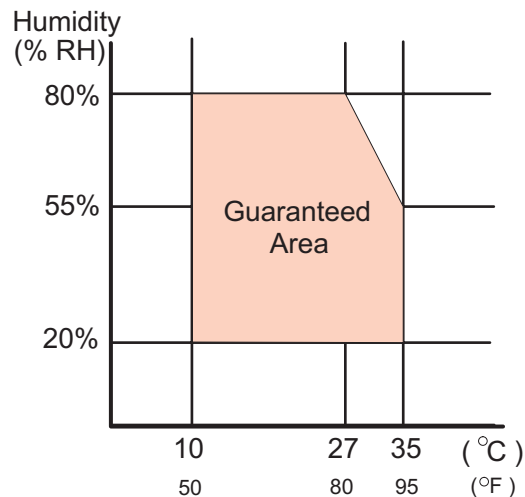

Figure 1-8. Temperature / Humidity of Range
- Operating : 50 to 95 °F (10 to 35 °C) (See Figure 1-8.)
- Operating: 20% to 80% RH without condensation (See Figure 1-8.)